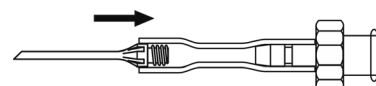

Fig. 4
- Attach the cleaning adapter (G-31021) as shown in fig. 4.
- After cleaning and disinfection remove the cleaning adapter in reverse order (see fig. 4).